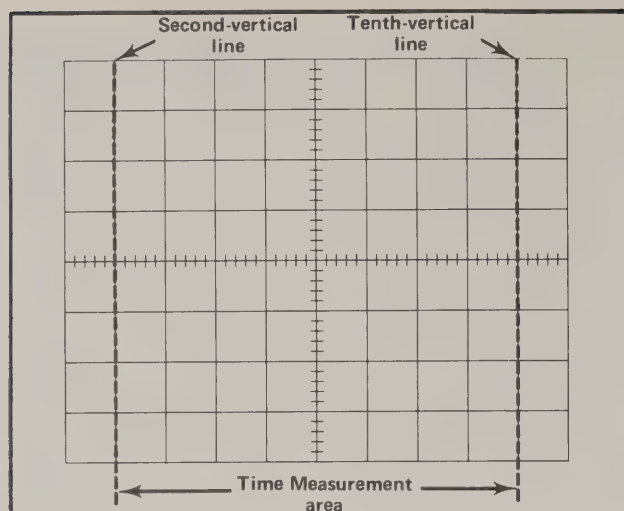

Fig. 1-8. Area of graticule used for accurate time measurements.
When making time measurements from the graticule, the center eight divisions provide the most linear time measurements (see Fig. 1-8). Position the start of the timing area to the second vertical line and adjust the TIME/DIV OR DLY switch
5. Set the TIME/DIV OR DLY TIME switch to the fastest sweep rate that displays less than eight divisions between the time measurement points (see topic entitled "Time Measurements" and Fig. 1-8).